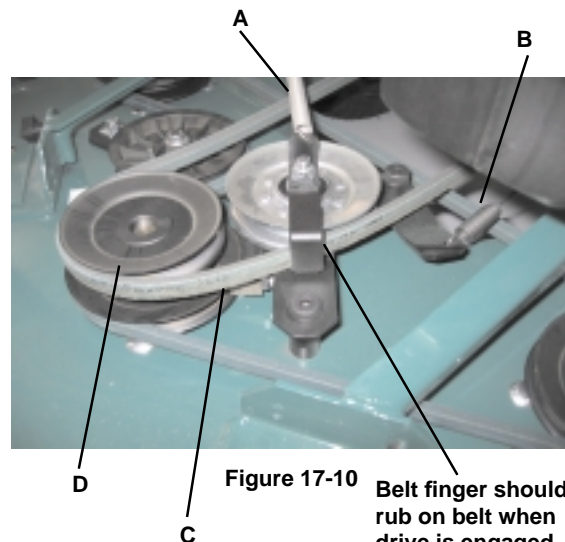

Figure 17-10
3. Remove the brake spring (A) and control cable spring (B) (see figure 17-10).
4. Remove the blade drive belt (C) from the drive pulley (D).
**Note:** Before installing fasteners, inspect them for wear and replace as necessary. Be sure that when reinstalling control cable spring (B), the open side of the spring hook faces up.
**Note:** When the blade drive lever is depressed, the brake puck should not rub on the center pulley, the belt should be under tension, and not rub on the belt finger (see figure 17-10).